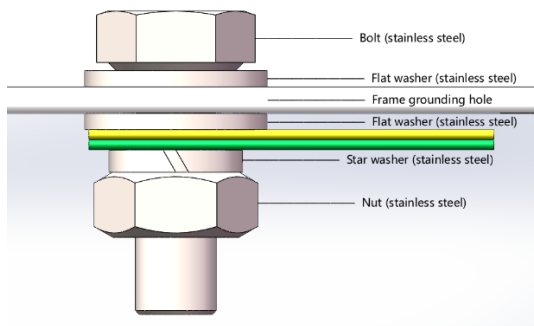

Figure 23 Schematic diagram for installation of grounding wire fitting bolt
- Grounding wire installation with bolts: Stainless steel bolts are recommended for grounding and should be used in the designated grounding holes. First, insert the stainless steel bolt through the flat washer, then through the grounding hole of the frame, the flat washer, and the star washer, and finally tighten with a nut. The installation diagram is shown in Figure 23.